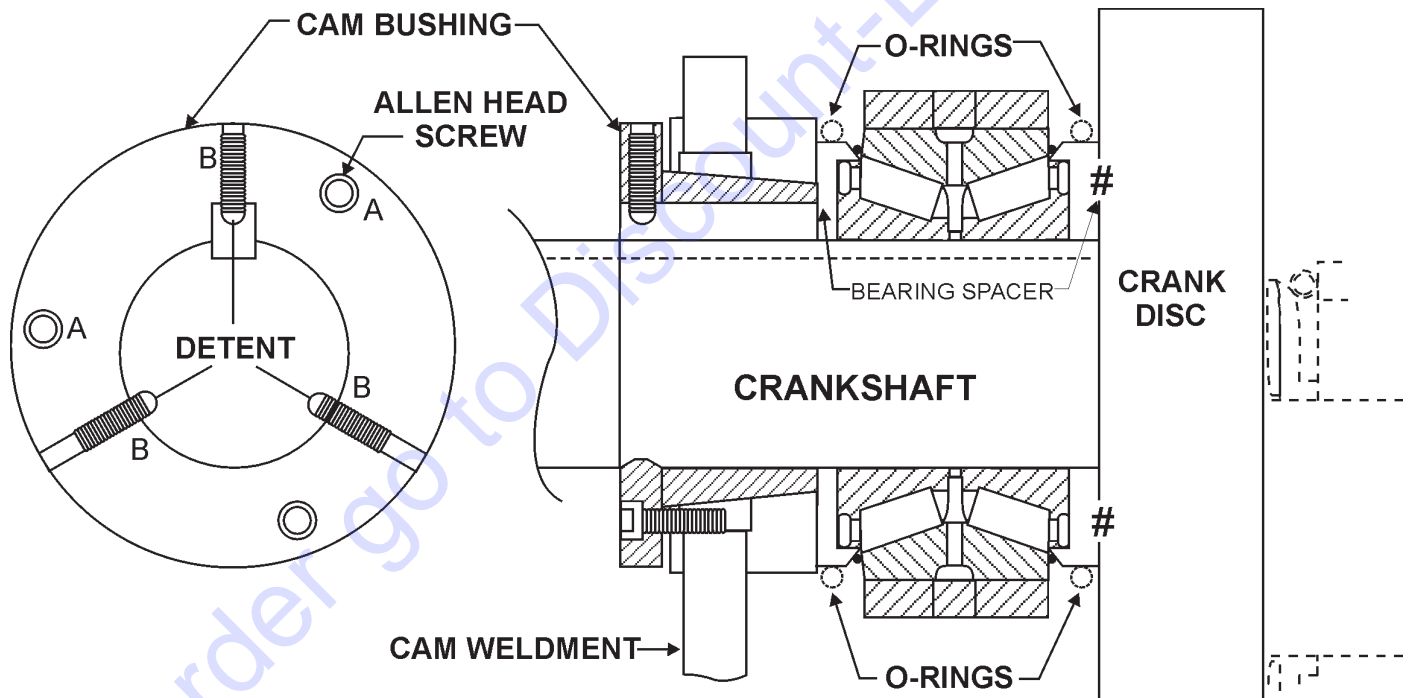

Figure 23. Bearing/Cam Bushing Installation
1. Install the bearing components on the crankshaft making full contact with the back side of the crank disc as indicated the symbol #. See Figure 23 below.